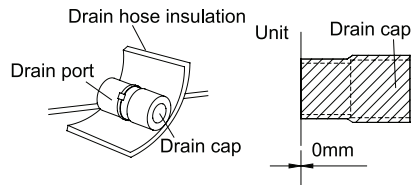

Fig.29
- (10). The unused drain port also should be insulated properly.(Fig.29)